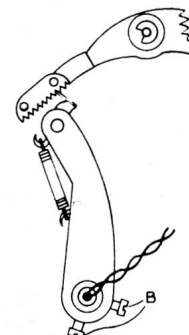

Figure 6
2. Place a ten-inch record on the turntable and rotate the turntable by hand until the sapphire is just ready to land. Loosen set screws "B" (Figure 6).
4. Tighten the black screw "B" and allow the mechanism to run through cycle automatically. If landing is correct, tighten copper plated screw "B." (Figure 6.) (Note) No separate 12-inch landing adjustment is necessary.